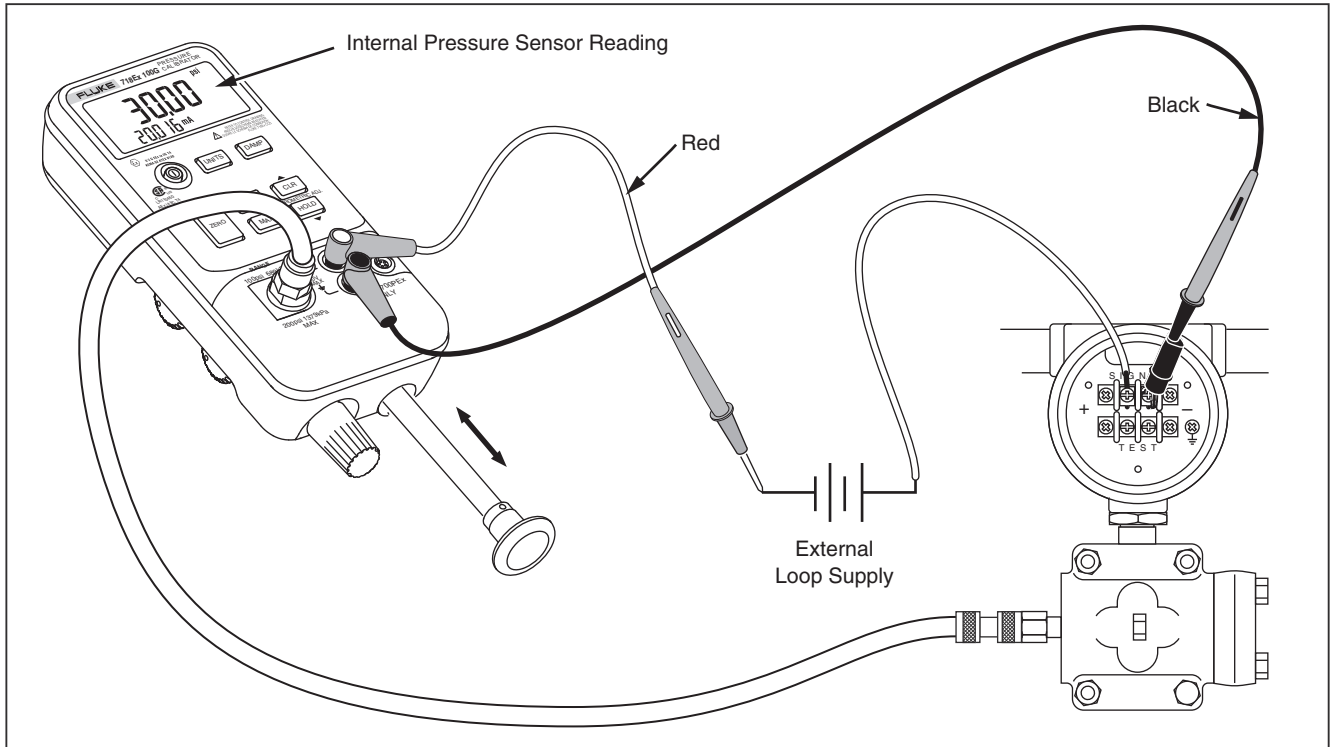
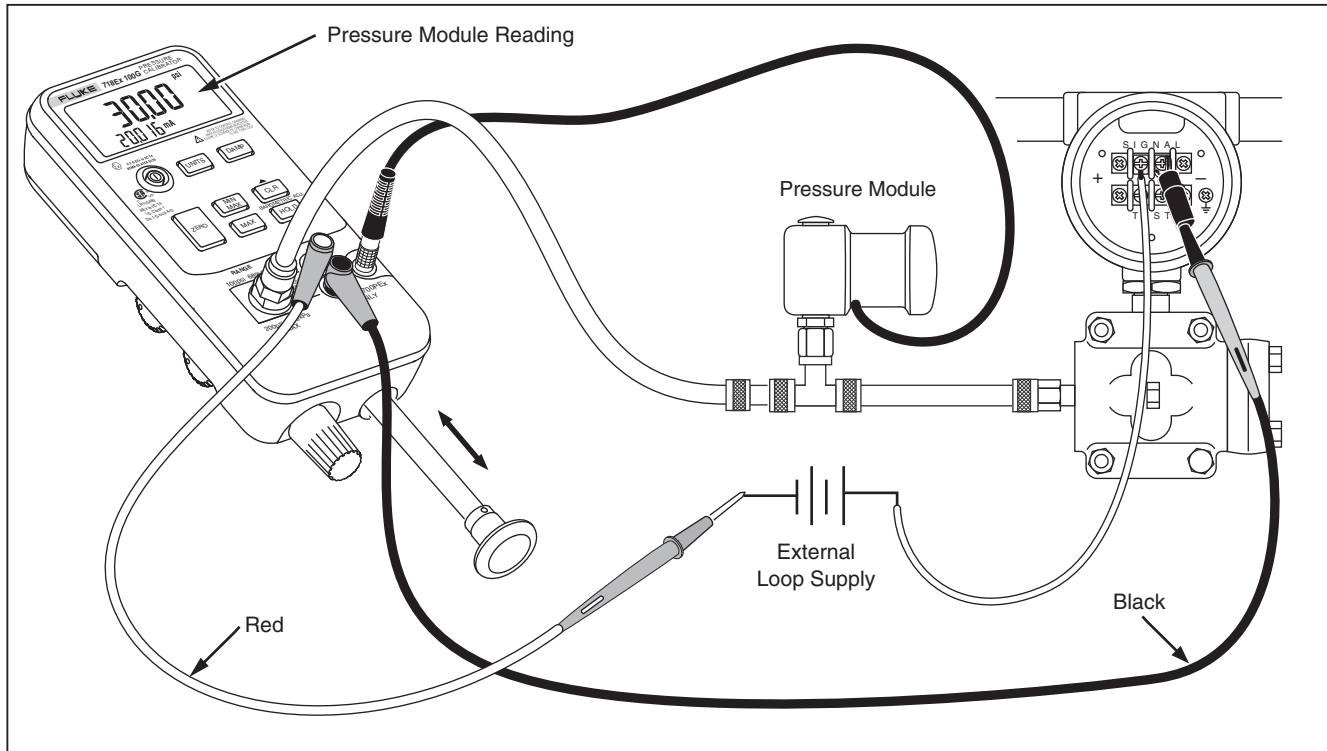

Figure 4. Internal Pressure Sensor with Internal Pump
Figure 5. Pressure Module with Internal Pump
The preferred use for the internal pump is shown in Figure 4, where the Calibrator displays pressure measured with the internal sensor and provided by the internal pump.
The internal pump can also be used with certain Fluke 700PEX Series Pressure Modules. In this case, pressure measured by the pressure module is displayed by the Calibrator. Appropriate pressure modules for each Calibrator model are identified in Table 4. Figure 5 shows the internal pump being used with a pressure module.
2. Connect the pressure transmitter under test to the Calibrator internal sensor as shown in Figure 4 (for internal pressure sensor measurements) or Figure 5 (for pressure module measurements.)